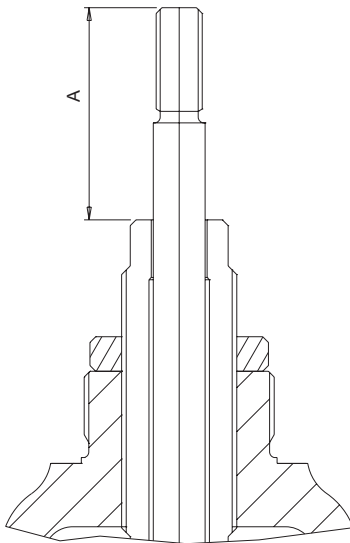

Figure 06
Note the dimension A, as shown in **Figure 06**, this information will be necessary to position the adjusting screw (24) when reassembling the valve.